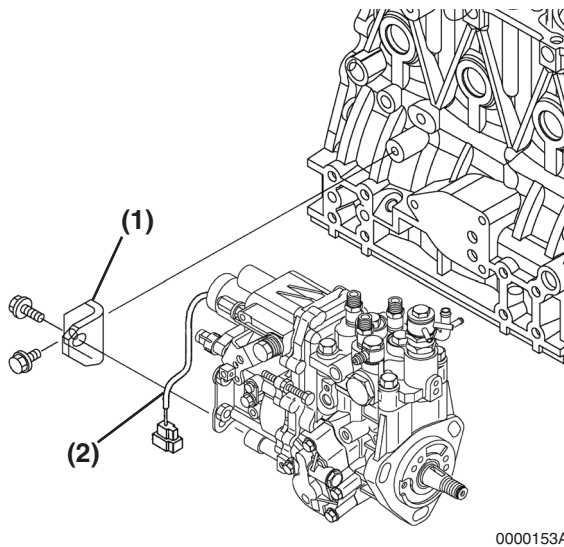

Figure 7-7
12. Separate the stop solenoid wiring connector (**Figure 7-7, (2)**).
13. Remove the rear fuel injection pump bracket(s) (**Figure 7-7, (1)**) from the fuel injection pump.